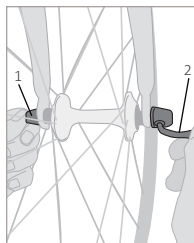

FIGURE 3.35
2. With the lever in the adjustment position, tighten the adjustment-nut (Figure 3.35) until it is slightly tight.